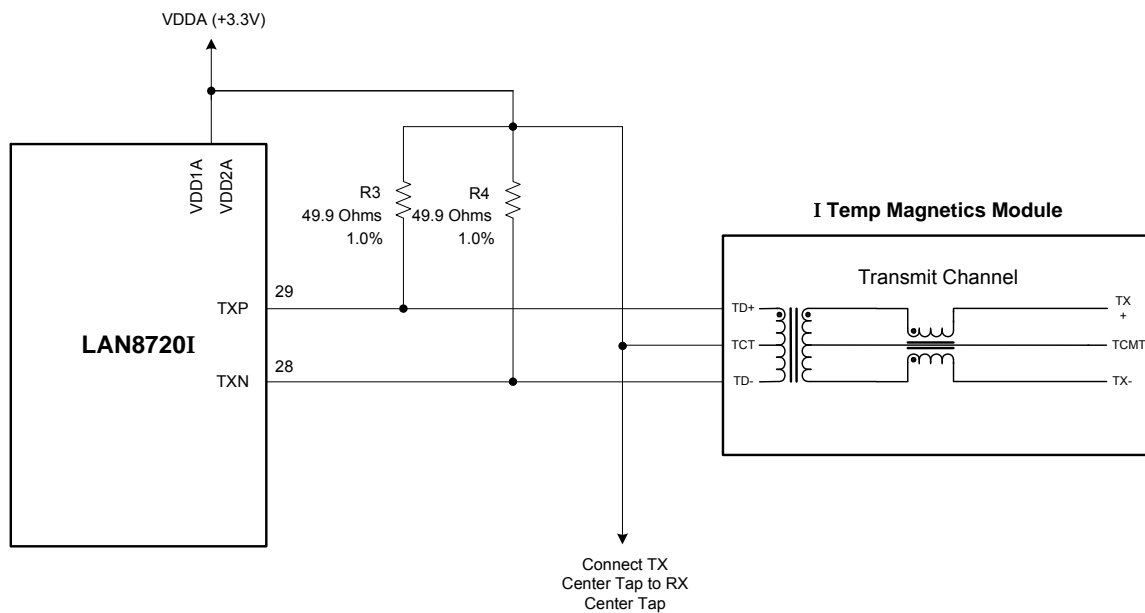

Figure 1 – Transmit Channel Connections and Terminations
3. For transmit channel connection and termination details, refer to Figure 1.